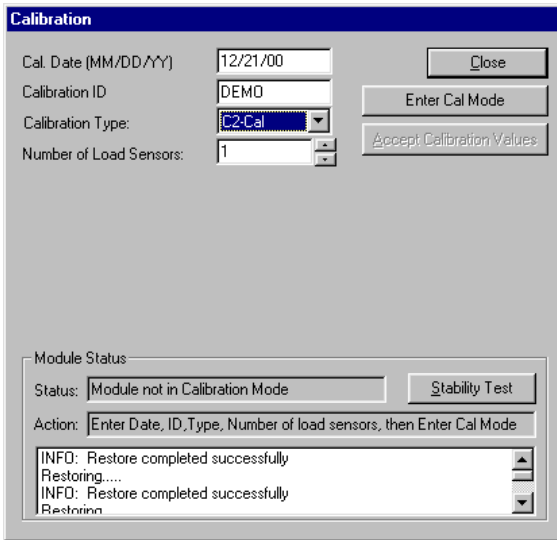
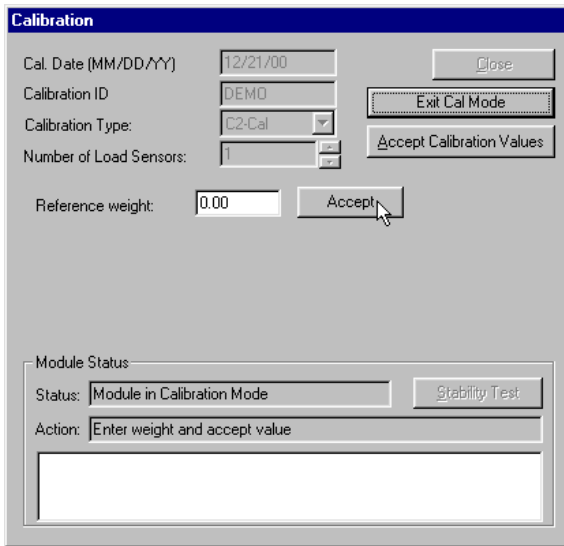

FIG. 6-3 CALIBRATION DISPLAY/SELECTING ENTER CALIBRATE MODE
FIG. 6-4 C2 CALIBRATION DISPLAY
- Step 2. Click on the Calibrate Button. The Calibration Display appears. (See Fig. 6-3)
- Step 6. Click the Enter Cal Mode button. This enables the parameter fields for hard calibration. (See Fig. 6-3) The Hard Calibration display appears. (See Fig. 6-4)